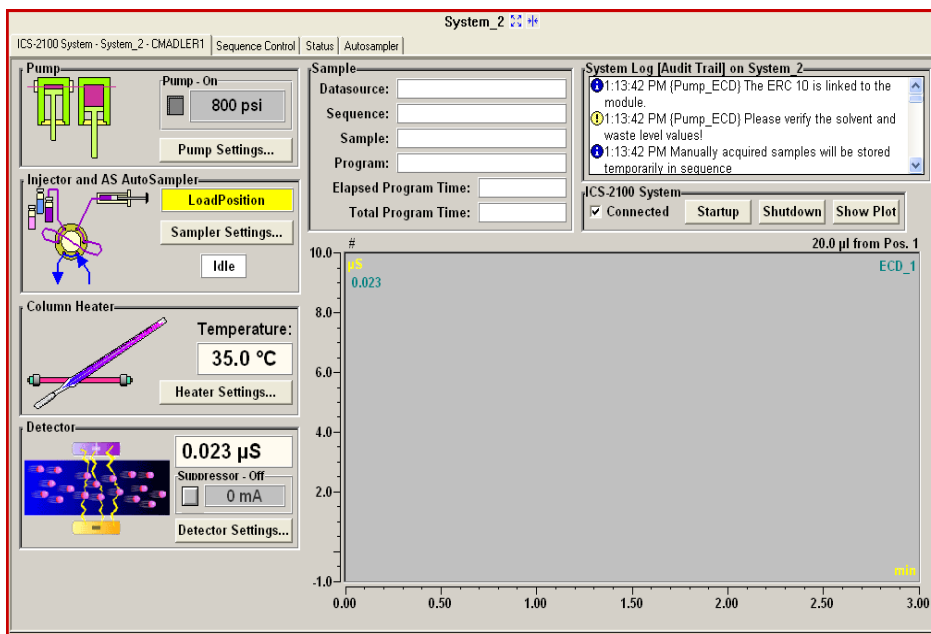

Figure 3-4. Dionex ICS-2100 Control Panel on the Chromeleon Panel Tabset
5. To display the Dionex ICS-2100 Control panel, click the tab labeled with the Dionex ICS-2100 timebase name (see Figure 3-4).
- In the **Eluent Bottle** field in the **Pump Settings** window (accessed from the Dionex ICS-2100 Control panel on the Chromeleon panel tabset (see Figure 3-4))
3. Offset the background and zero the reading by clicking the **Autozero** button on the Chromeleon Control panel (see Figure 3-4).
- If the pressure is less than the expected amount, gas may be trapped in the system. To release the gas, remove the pump fitting on the injection valve port, labeled **P (2)**. Allow the air to escape and then reconnect the fitting.